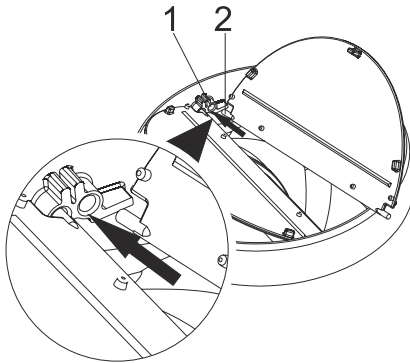

Fig. 11
- Insert the plastic pin (area no.2) on the pin socket on the motor exhaust (area no. 1). Fig. 11 (Fig. 11). Then bend the flap lightly to insert the other pin on the flap and insert the other pin to its socket (Fig. 11).